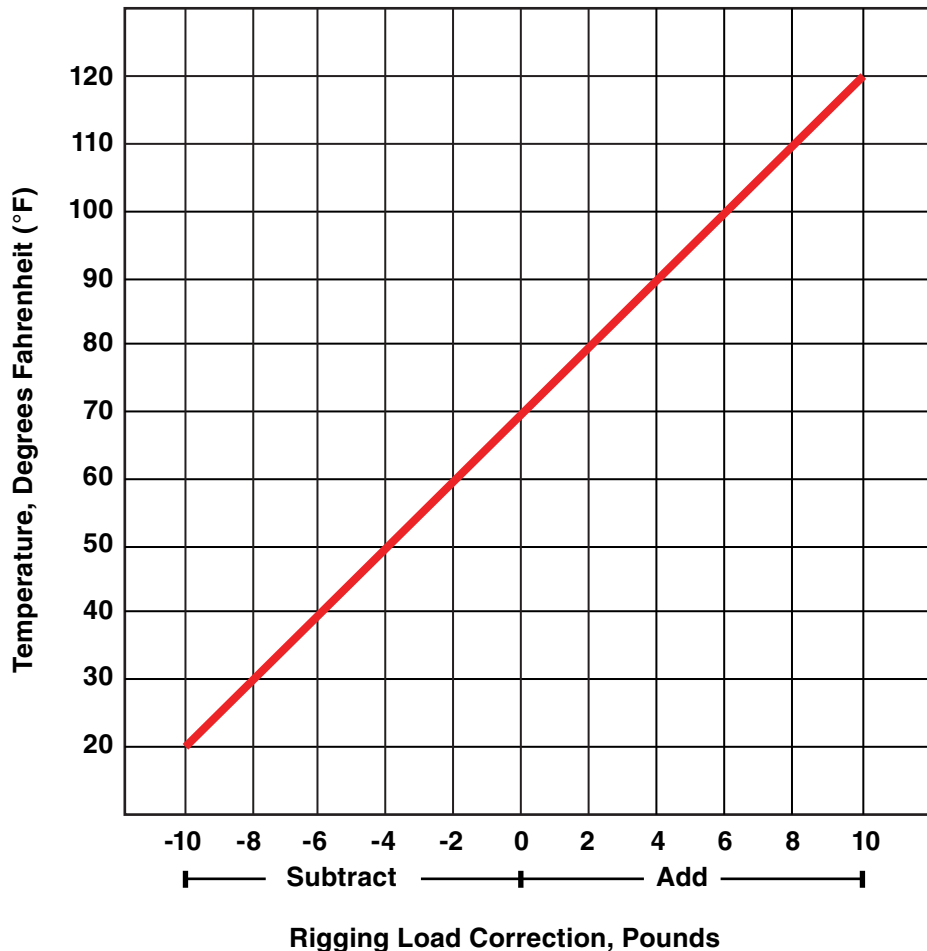

Figure 1
- Flight control cable rigging tensions specified in the applicable Piper Service Manual (SM), Section V; or applicable Piper Airplane Maintenance Manual (AMM), Chapter 27; must be corrected to account for ambient temperature, in airplanes with an aluminum fuselage or wing structure. Use the “Cable Tension vs. Ambient Temperature” chart provided in the applicable SM or AMM, or Figure 1, if the chart is not available in the manual.